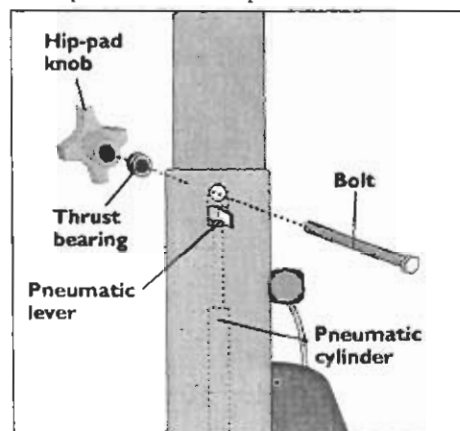

Figure 17
8. Insert the bolt that holds the adjustment knob from right to left (Figure 17). Lift the front end of one rail to help align the upright tower holes with the hole in the top of the pneumatic cylinder. Be sure to insert the bolt from the right side so the square hole lines up with the bolt head.
- Insert the hip-pad carriage bolt from right to left (Figure 17).